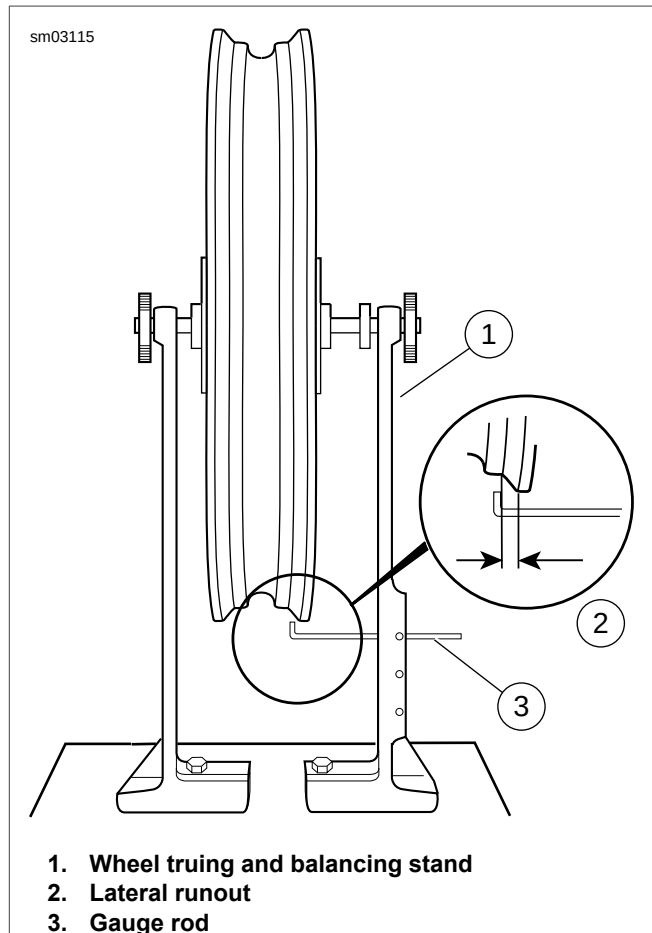

Figure 2-22. Checking Lateral Runout
- See Figure 2-22. With the wheel mounted in WHEEL TRUING STAND (Part No. HD-99500-80), adjust the gauge rod (3) near the rim bead flange.
- Rotate the rim slowly and check lateral runout (2). If runout exceeds 0.030 in (0.76 mm), adjust spokes as follows.